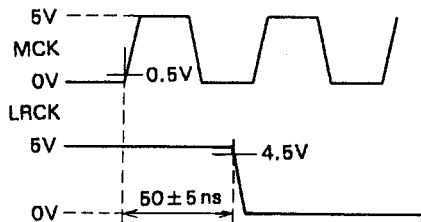

Fig. 5-2
3. First turn VR1107 all the way left (counter-clockwise). Turn VR1107 slowly to the right until the time interval between the 0.5V point on the rising TP (MCK) signal and the 4.5V point on the falling TP (LRCK) signal becomes $50 \text{ nsec} \pm 5 \text{ nsec}$ for the first time (see figure 5-2).